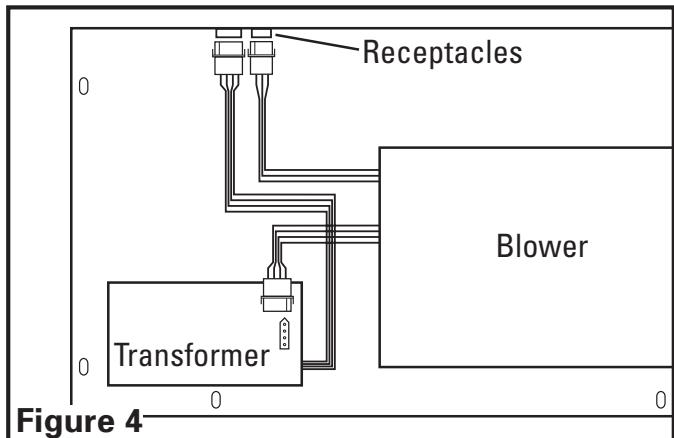

Figure 4
5. Plug the 3 wire quick connect cord from the blower into the receptacle on the range hood canopy. Plug the 4 wire quick connect cord from the blower into the receptacle on the transformer. Plug the 4 wire quick connect from the transformer into the receptacle on the range hood canopy. These cords will only fit into the receptacles one way (**Figure 4**).
6. Plug the 3 wire quick connect cord from the blower into the receptacle on the range hood canopy. Plug the 4 wire quick connect cord from the blower into the receptacle on the transformer. Connect one end of the wiring harness to the connector coming out of the transformer and the other end to the receptacle in the range hood canopy. These cords will only fit into the receptacles one way (**Figure 4**).